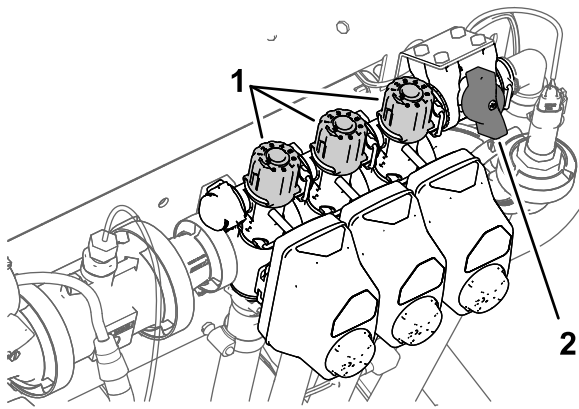

Figure 30
2. Turn off the left-section switch and adjust the section-bypass knob (Figure 30) until the rate displayed is at the previous level according to the table.
4. Adjust the right section-bypass knob (Figure 30) until the rate displayed is at the previous level according to the table.
6. Adjust the center section-bypass knob (Figure 30) until the rate displayed is at the previous level according to the table.